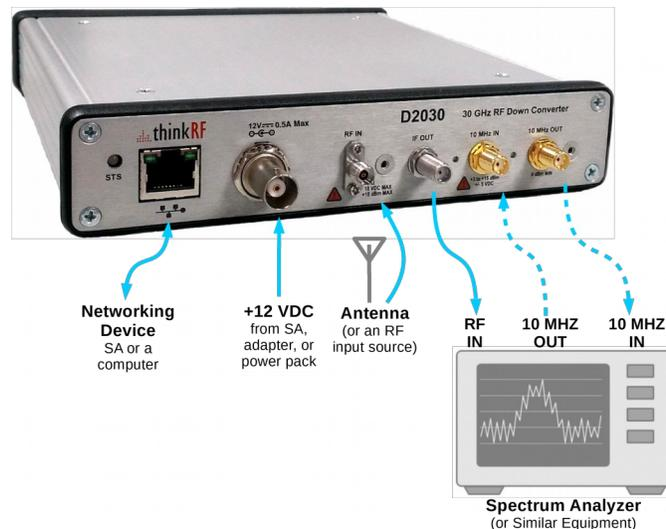

Figure 1: D2030 Interconnect Diagram with A Spectrum Analyzer
D2030 30 GHz Downconverter is used to convert RF signals in the range of 27-30 GHz down to an intermediate frequency (IF) of 3.55 GHz or 5.6 GHz (determined by the product Option code, see :SYSTEM:OPTions?). This is designed to extend the functionality of existing spectrum analyzers that operate to a maximum frequency of 4 GHz or 6 GHz, respectively, to measure and analyze 5G signals in the range of 27-30 GHz band. Figure 1 shows a simplify interconnect diagram with a spectrum analyzer.